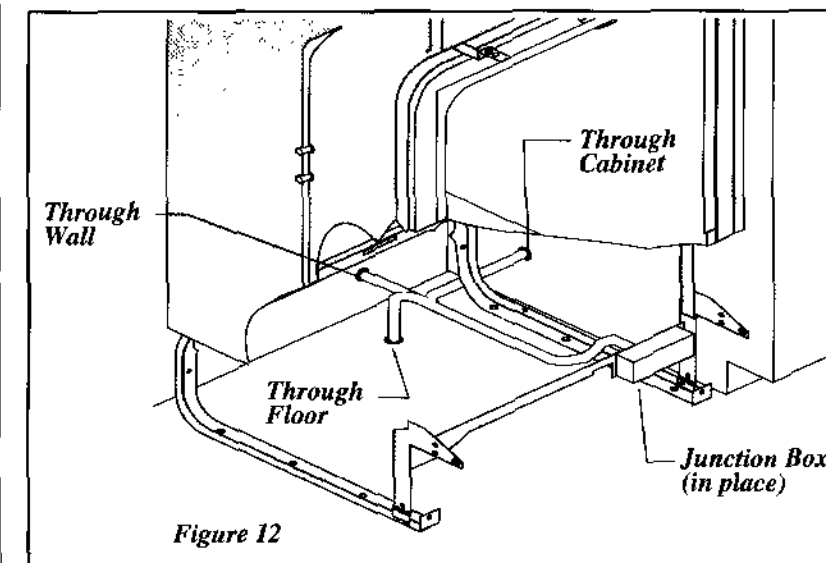

Figure 12
1. Remove junction box cover and pull house wiring into junction box. **See Figures 12 and 13.**